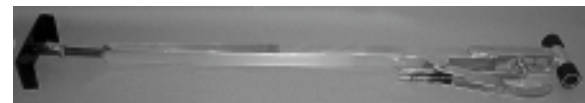

Fig. 3-5
1. Release the travel lock (Fig. 3-5) behind the center door of the overhead cabinets located above the sofa.
3. **For Eagle and Qwest models, remove the “travel bars” (Fig. 3-5) from behind the top fascia board located above slideout room.**
4. **For Eagle and Qwest models, install “travel bars” (Fig. 3-5) in proper locations as indicated on the wall.**